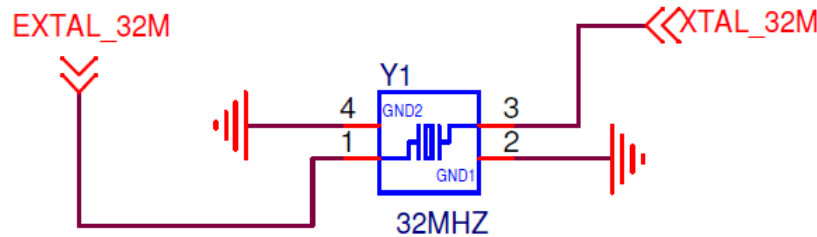

Figure 6: FRDM-KW41Z 32 MHz reference oscillator circuit.
- Figure 6 shows the 32 MHz external crystal Y1. The IEEE Std. 802.15.4 requires the frequency to be accurate to less than  $\pm 40$  ppm